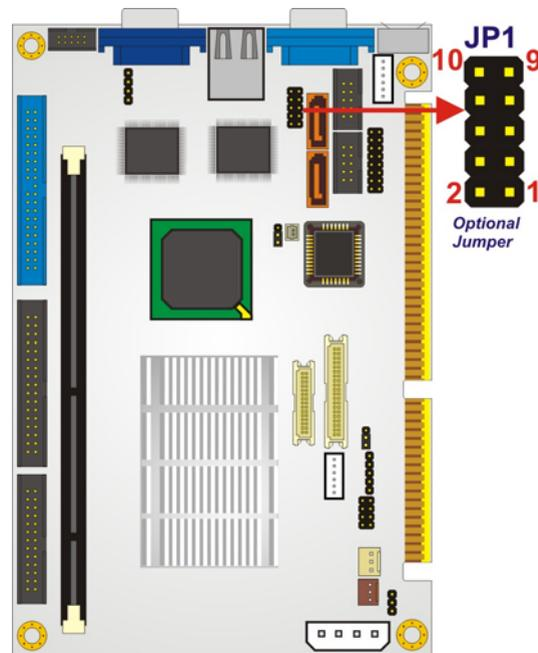

Figure 5-3: Serial port voltage selector
- Jumper Location:** See **Figure 5-3**